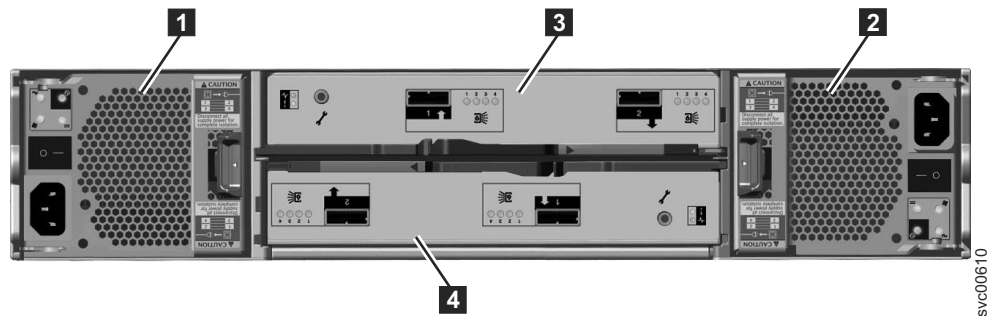

Figure 8. Rear view of a model 2076-212 or a model 2076-224 expansion enclosure
Figure 8 shows the rear view of an expansion enclosure and identifies the location of the power supply units and the canisters. The ports and their use are described later in this section.
- Two canisters are housed in the middle of the enclosure. Each canister is known as an expansion canister. The upper canister, as shown in Figure 8, is canister **3**, and the lower canister is canister **4**. Canister 3 is top side up, and canister 4 is inverted, or top side down.